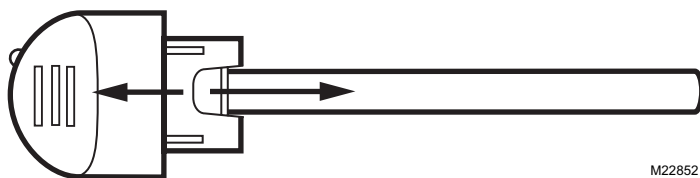

Fig. 10. Disconnect lamp glass from SnapLamp™ handle.
- If you have a SnapLamp™ handle, follow steps 5 and 6; otherwise, proceed to step 7. Grasp the SnapLamp™ handle in one hand and the lamp glass in the other and pull straight apart. See Fig. 10.